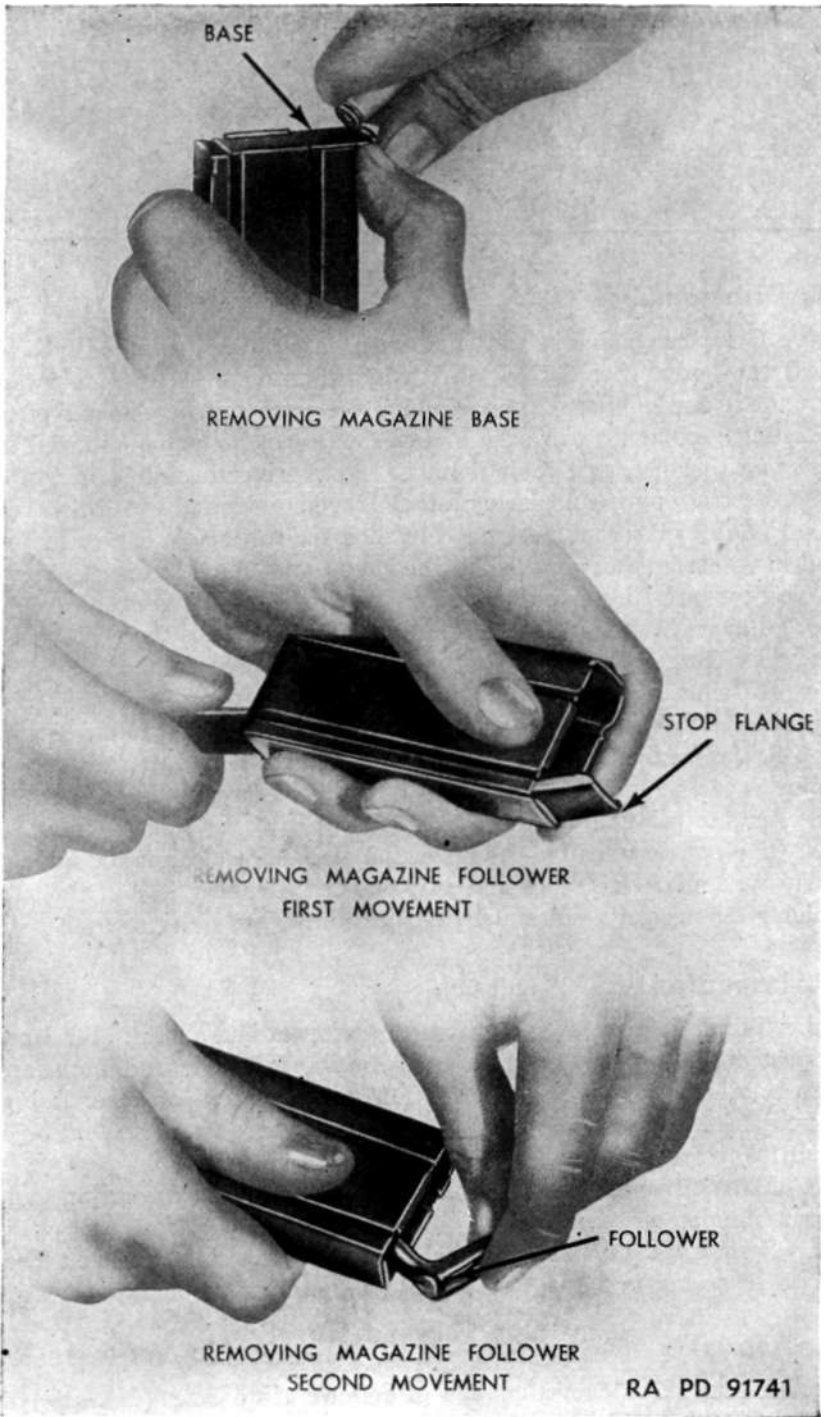

Figure 67. Removing magazine base and follower.
*a.* Grasp magazine in left hand with base up and rounded face toward the body. (See fig. 67.) With left thumb, press up on forward (rounded) end of magazine base until the base can be slid out of its retaining grooves in the base of body. Movement can be started by inserting rim of cartridge or point of screw driver in indent in top of base. Restrain magazine spring as base is removed, and withdraw from tube. (Bases of recent design are ribbed on the inside for stiffening, and have an overhanging lip on the round end. Such bases can be removed by inserting screw driver under lip and pulling up and out.)